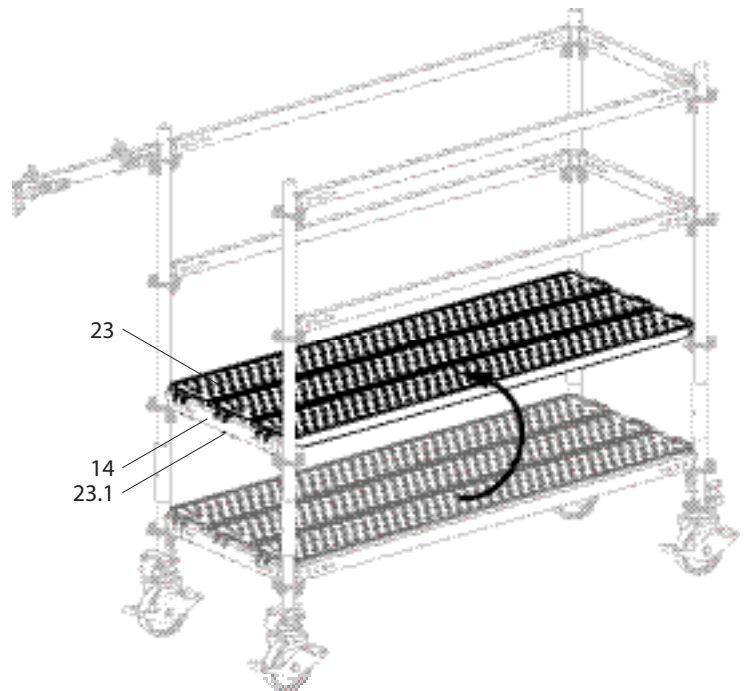
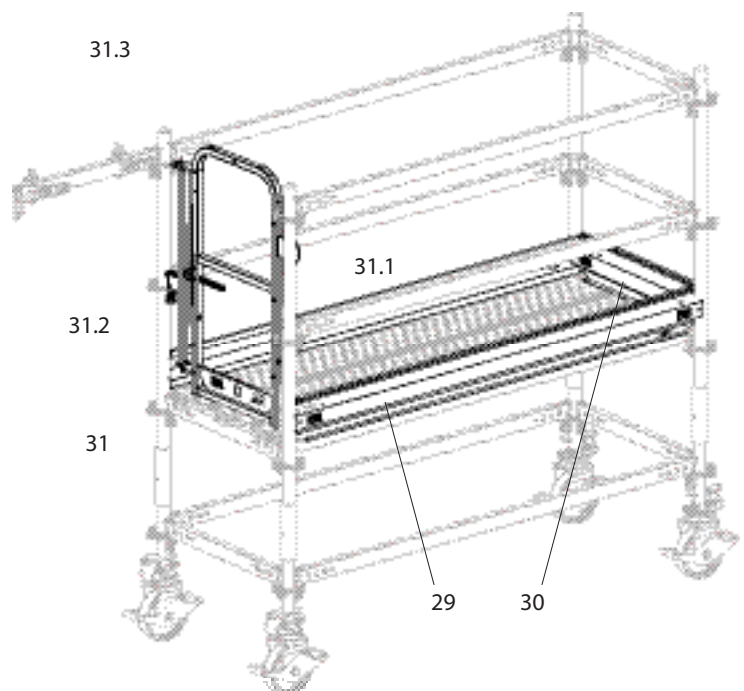

Fig. A3.05
Fig. A3.06
1. Move the Steel Decks UDG-2 (23) to platform height. Lift locks (23.1) must engage beneath the horizontal ledgers (14). (Fig. A3.05)
3. Install the Safety Entry Gate UPS 75 (31) with wedge (31.2) and suspension bracket (31.3) on the rosettes of the standard.
5. Check that the self-closing function works properly. (Fig. A3.06)